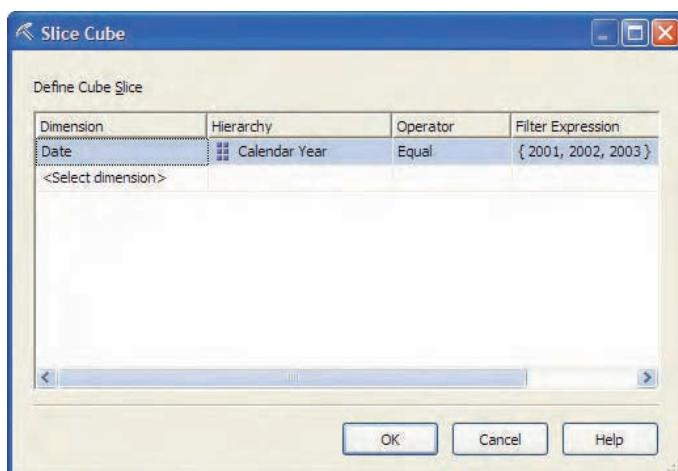

Figure 8.24 Create a cube slice to predict the 2004 sales based on the historical sales from 2001 to 2003.
- Since we need to predict the 2004 sales, use the Slice Cube step to create a cube slice that filters both the case and nested table data for years 2001, 2002, and 2003 (Figure 8.24).